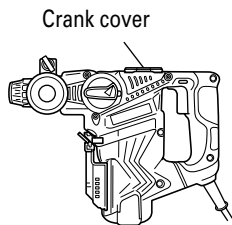

Fig. 32
- (1) Disassemble the crank case cover and thoroughly wipe off the old grease inside. (Fig. 32)
- (2) Supply 1.0 oz (30g) of Hitachi Electric Hammer Grease A (standard accessory, contained in tube) in the crank case.
- (3) After replacing the grease, reassemble the crank case cover securely. At this time, do not damage or lose the oil seal.